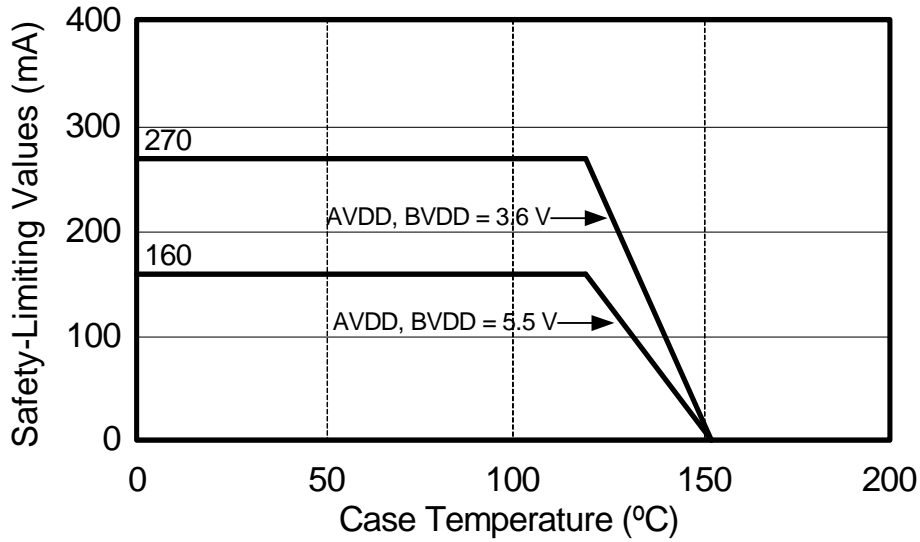

Figure 3. NB SOIC-8 Thermal Derating Curve, Dependence of Safety Limiting Values with Case Temperature per DIN EN 60747-5-2
- Maximum value allowed in the event of a failure. Refer to the thermal derating curve in Figures 3, 4, and 5.